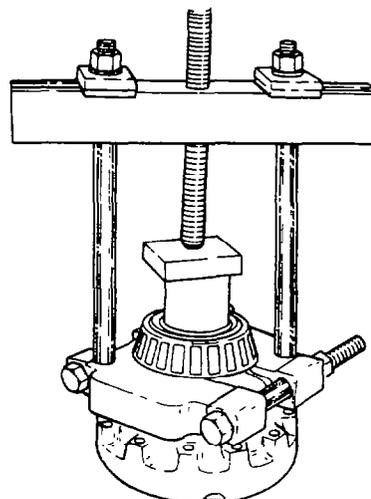

Fig. 350 — Removing Differential Case Bearings
- j. Remove the bolts (item 18) and nuts (item 21) securing the flanged differential case (item 20) to the crownwheel (item 19); remove the crownwheel from the case.
- k. Remove the bearings (items 22 and 10) from both differential cases (items 12 and 20) using a suitable puller and collar (see fig. 350).